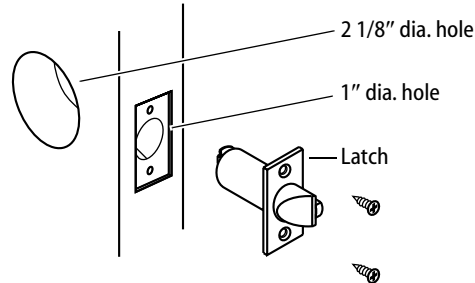

Figure 3 — Boring two holes and installing the latch
- 1 Bore a 2 1/8" diameter hole from both sides of the door, to the center of the door as shown in Figure 3.